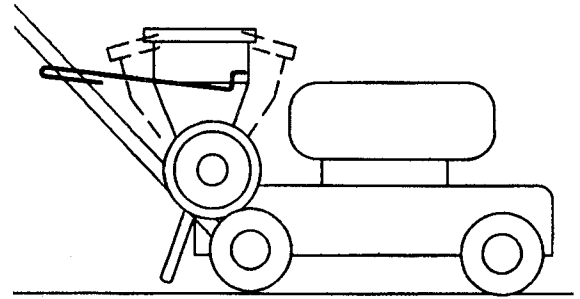

Figure 90
8. Adjust the hopper so it is level and tighten the handle knob securely to lock the hopper in place (Fig. 90).